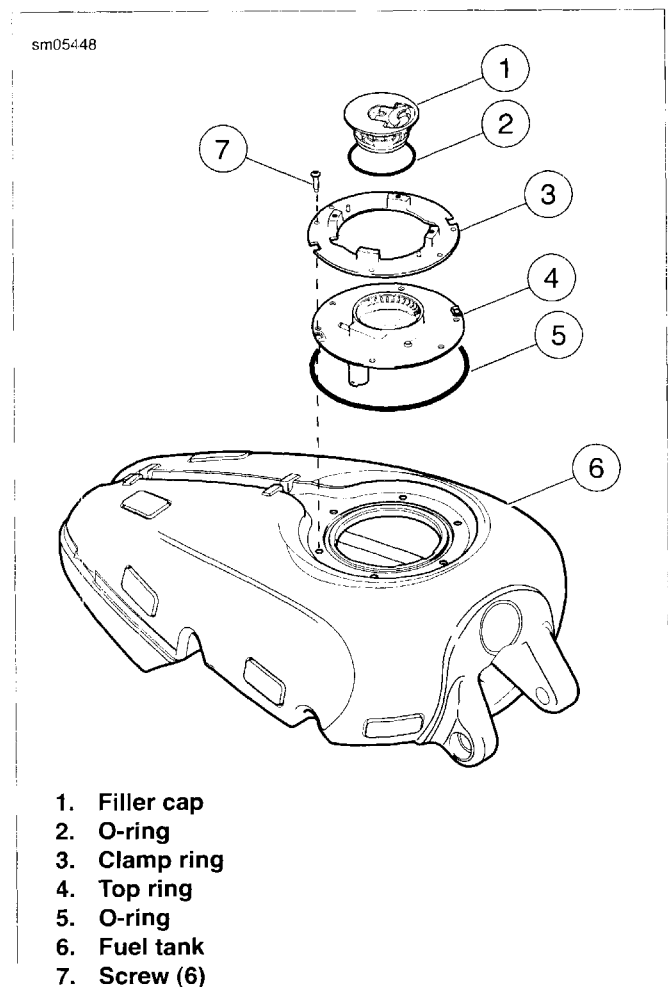
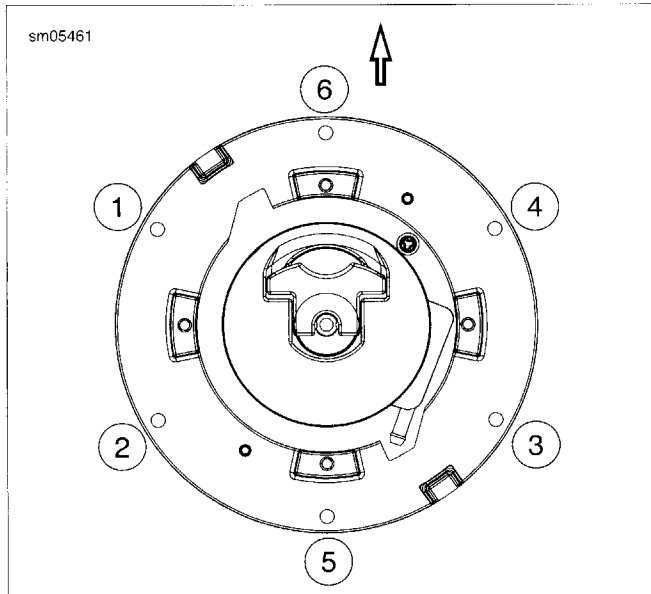

Figure 4-23. Fuel Tank Assembly
Figure 4-24. Filler Housing Torque Sequence
1. See Figure 4-23. Remove filler cap (1) with O-ring (2).
2. Remove screws (7) and clamp ring (3).
3. Remove top ring (4).
4. Remove O-ring (5).
1. See Figure 4-23. Install O-ring (5) on top ring (4). Ensure it is seated properly.
2. Install top ring and clamp ring with screws (7).
3. See Figure 4-24. Tighten screws in the sequence shown to 40-45 **in-lbs** (4.5-5.1 Nm).
4. See Figure 4-23. Install filler cap (1) with O-ring (2).